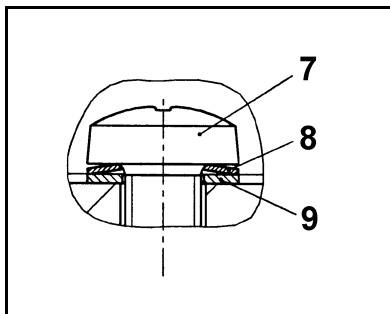

Fig. 10: Position and orientation of disk (8) and washer (9) at screw (7)
* see fig. 10
1. Place head plate (10) on intermediate plates (11), (14) and (15) in the position indicated by the drawing lines.
2. Tighten the three screws (7) of head plate (10) carefully slightly hand-tight.
- i** For position and orientation of disk spring (8) and washer (9) of screw (7) see fig. 10.
3. Place head cover (4) on pump housing (18).
4. Tighten the nine screws (3) of head cover (4) slightly in the first instance. Start with the screws of medium pump stage, then tighten the screws on the right, at least these on the left.
5. Now, tighten the screws (3) firmly; tighten the center screws first, then continue outward.
6. Remount the covers (5).
7. Remount pump handhold (2).